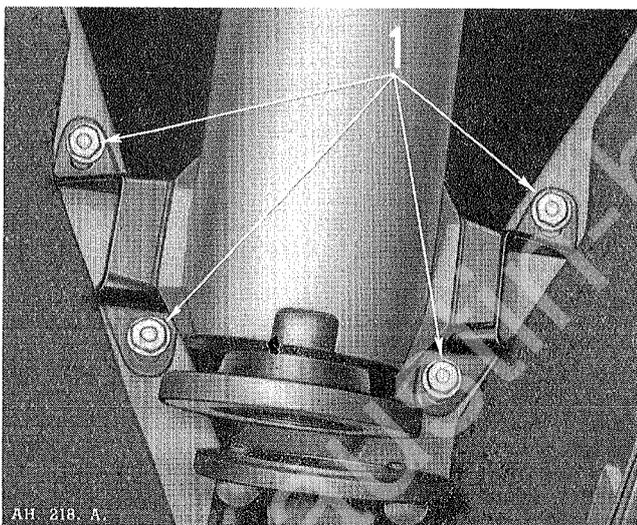

Fig. A.3. The gearbox rear upper securing bracket showing the four setpins at 1.
- (3) Unclip and roll back the carpet over the short gearbox tunnel to expose the twelve screws securing the tunnel to the body of the car. Unscrew the setscrews and remove the tunnel and its carpeting.
- (4) Unscrew the six setscrews, three either side, which secure the carpet covered bulkhead and remove the bulkhead.
- (5) Using a suitable tool tap back the locking washers on the propeller shaft flange bolts and remove the bolts.
- (6) Unscrew the four setpins from the gearbox mounting brackets (see fig. A.3), also unscrew the speedometer cable at its connection to the gearbox.